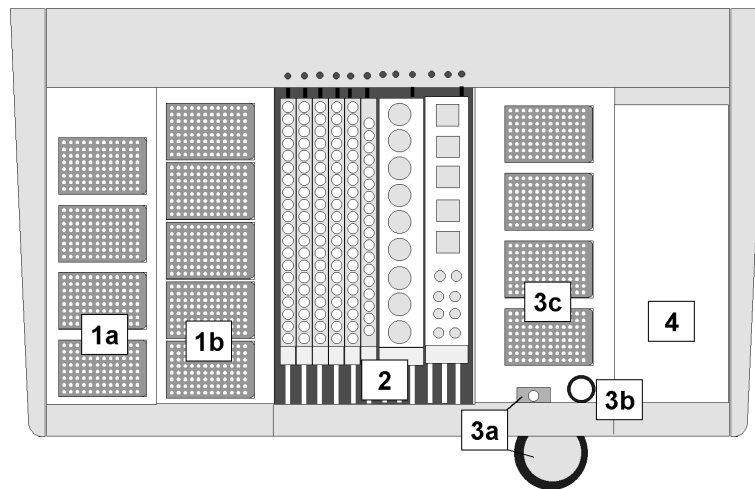

Figure 2-2: **ELISYS QUATTRO** - View on top level
The tray is accessible via a drawer which is locked automatically as soon as a run has been started. The tray includes 5 positions for tip racks (300  $\mu$ l or 1100  $\mu$ l tips, see figure 2-2: position 1b) as well as a position for the dilution rack see figure 2-2: position 1a. 6 additional reagent positions are also available.
(See figure 2-2: position 2)
**Tip ejection station and waste bag** (see figure 2-2: position 3a)
**Pipettor wash station** (see figure 2-2: position 3b)
**Pipetting station** (see figure 2-2: position 3c)
(See see figure 2-2: position 4 or figure 2-5: position 4)